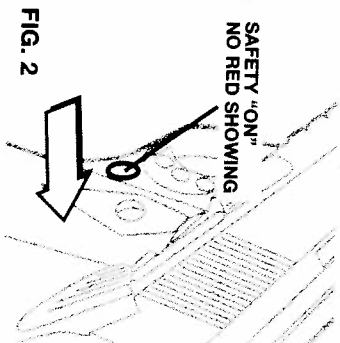

FIG. 2
Push the safety button to the right toward the "SAFE" position – NO RED SHOWING (see Fig. 2). In this position, the trigger cannot be pulled to fire the gun.
**NOTE:** The safety is not automatic. It will only do its job when you do yours. With the index finger out of the trigger area, move the safety to the "SAFE" position – NO RED SHOWING (see Fig. 2). **REMEMBER, THE BEST SAFETY IS GOOD GUN HANDLING.**